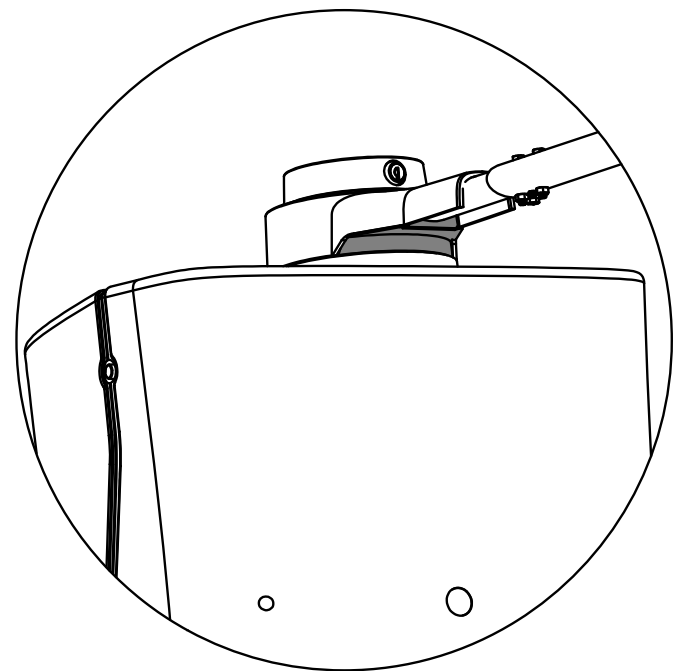

Figure 5. Lock the Top Cap In Place
7. Lock the top cap in place with the key. (Figure 5)